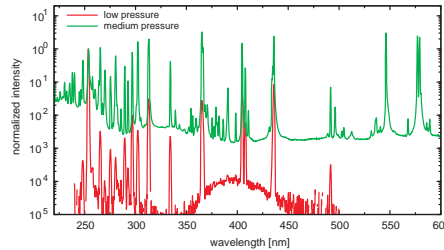

Figure 2: Spectral emission from the low (red line) and medium (green line) pressure lamps. Normalized to 253.75nm .
- irradiation with a high power medium pressure Hg discharge lamp uv technik meyer UHV2022 17, spectrum see fig. 2
- irradiation with a low pressure Hg discharge lamp Wedeco NLR 1825, spectrum see fig. 2
- calculation uses spectral responsivity (fig. 6) and spectra of the low and medium pressure lamps (fig. 2)